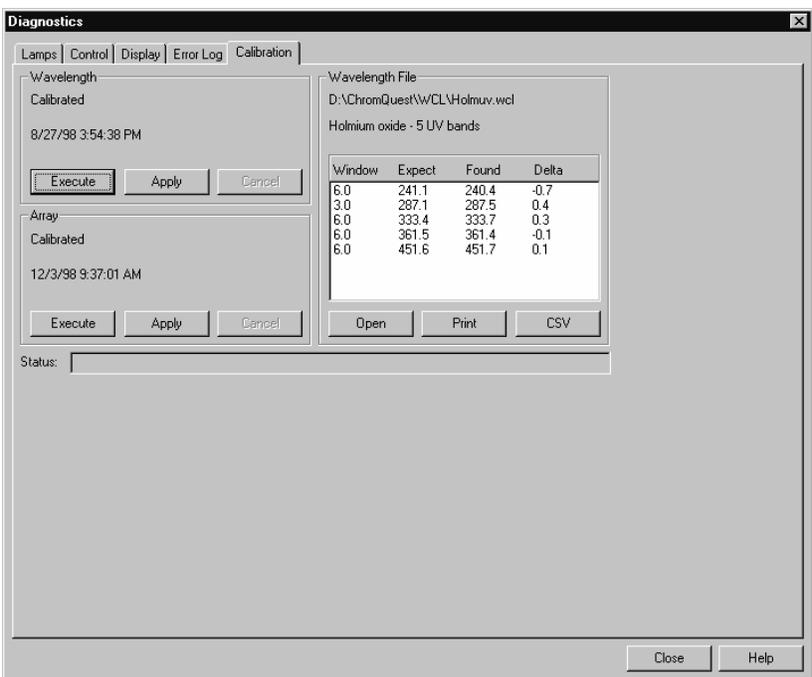

Figure 5.19 Wavelength Calibration Results
10. Click on the OK button (Figure 5.18) to close the info box and view the results as shown in Figure 5.19.